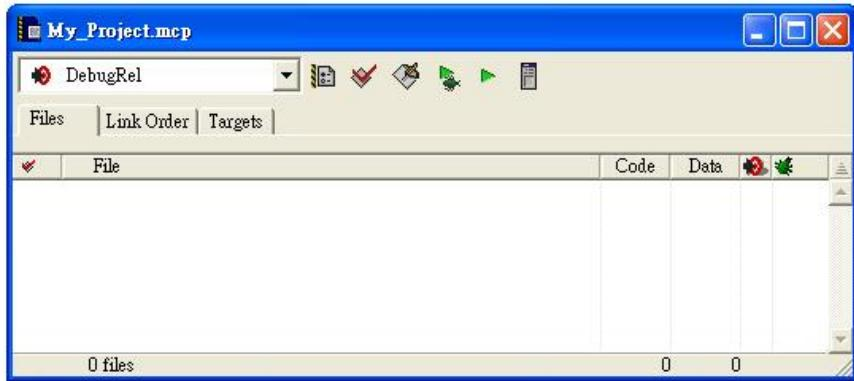

Figure 6. New Project.
5. Click **OK**. The CodeWarrior IDE creates a new project based on the ARM Executable Image project stationery, and displays a new project window with the **Files** tab highlighted and DebugRel is selected as the build target by default (Figure 6). Other build targets can be selected by clicking on the drop-down box. It is the DebugRel variant that we shall use for the remainder of this Lab.
- Double click on My\_project.mcp, the ADS IDE starts and displays the project window as it did at step Five (Figure 6).